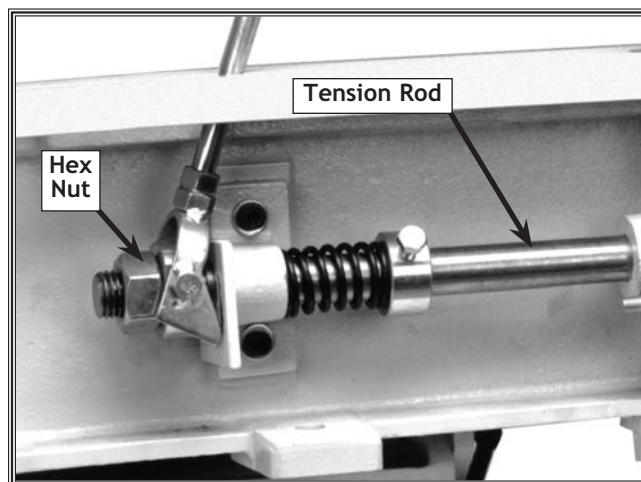

Figure 35. Hex nut and belt tension rod.
The sanding belt tension for your Model W1688 Edge Sander has been setup at the factory; however, due to shipping, varying belt length, or long use of the sander, the tension may need to be adjusted. You can compensate for this normal condition by adjusting the hex bolt on the end of the tension rod to increase or decrease the belt tension. See **Figure 35**.
2. Turn the 1"-8 hex nut on the end of the tension rod counterclockwise to increase the belt tension, or turn it clockwise to decrease the belt tension. See **Figure 35**. The tension must hold the belt firmly without belt slap on the platen or skidding on the rollers during sanding operations.